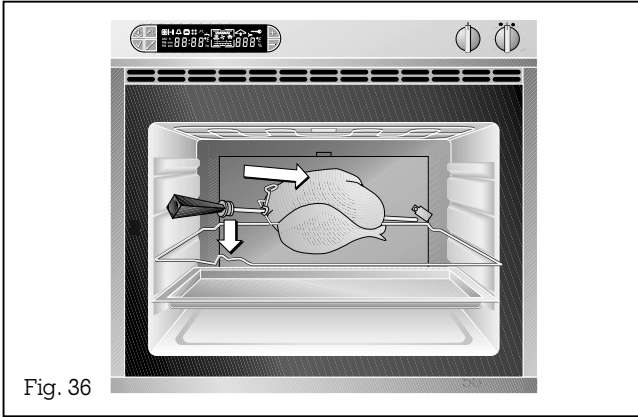

Fig. 36
- Fit the rotary spit in the rotary spit drive (Fig. 36). Unscrew the handle from the rotary spit and close the oven door.